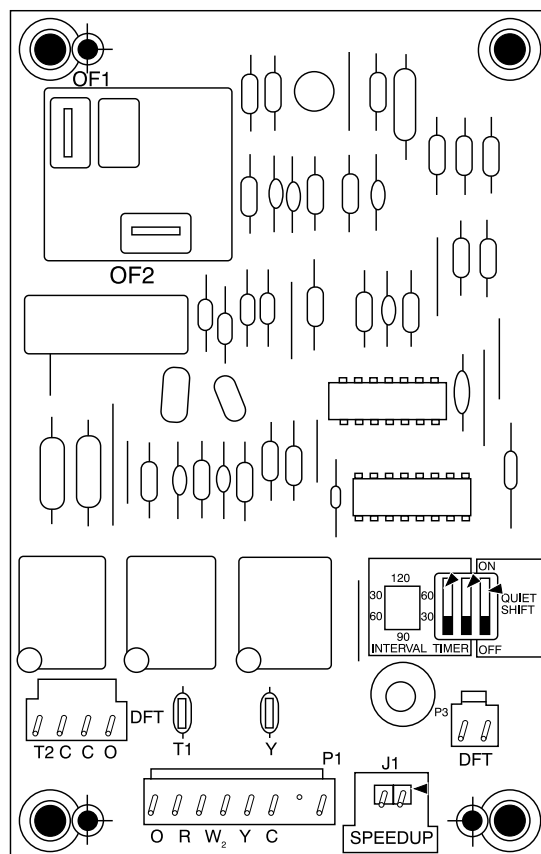

Fig. 13 – Defrost Control HK32EA012
6. Jumper between DFT and R terminals on control board as shown in Fig. 13.
12. Unit is now operating in defrost mode. Check between C and W2 using voltmeter. Reading on voltmeter should indicate 24v. This step ensures defrost relay contacts have closed, energizing supplemental heat (W2) and reversing valve solenoid (O).